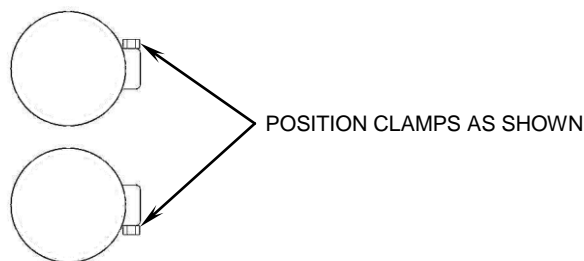

FIGURE 2
6. Install the rear exhaust assembly to the rear cylinder using the stock acorn nuts removed in Step 3, but **DO NOT TIGHTEN**. Make sure exhaust gasket remains in place. Align muffler with mounting holes in the exhaust mount bracket and insert (2) supplied 5/16"-18 x 5/8" hex flange bolts but **DO NOT TIGHTEN**.
9. On the front and rear heatshields, unscrew the hose clamps and feed the tail end of the clamp through the clips on the inside. The larger clamps are to be placed at the rear of the heatshield so they clamp over the mufflers. The screw end of the hose clamps should be accessible for tightening but not visible when the heatshields are mounted to the pipes. See Figure 2.
11. Make sure the front and rear heatshields are parallel with each other. Install one billet tip on each heatshield. Fasten the tips with the (2) supplied 1/4"-20 x 3/8" buttonhead bolts making sure they snug up against the heatshield leaving no gap between the tip and heatshield when tightened. **If it is difficult to slide the tips into the heatshields, loosen the clamps on the heatshield, failure to do this may cause damage to the chrome tips.**